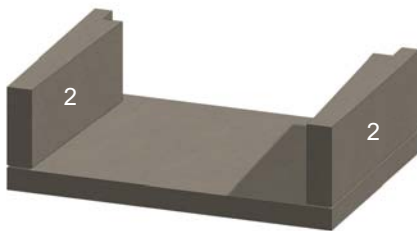

Figure 8. Lower Sidewalls
C. Install the lower sidewalls (2), ensuring they are level and square. Plan for the location of the gas line for the vent free log set, as you will typically want to locate it in the lower sidewall, approximately 4" from the bottom, on the right side wall. Drill a hole large enough to accommodate the gas line, using a drill masonry bit. See Figure 8.